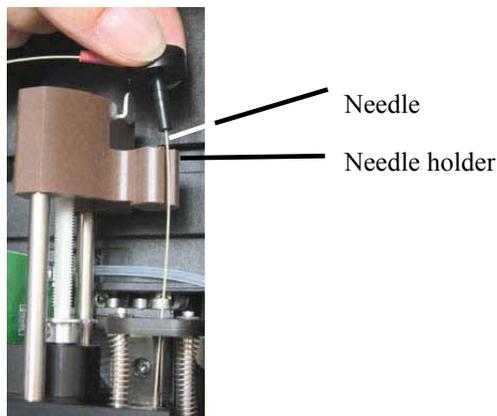

Fig. 51: Removing the needle
5. Carefully insert the new needle into the puncturer (→ Fig. 51).
6. Install the needle in the holder (→ Fig. 51).